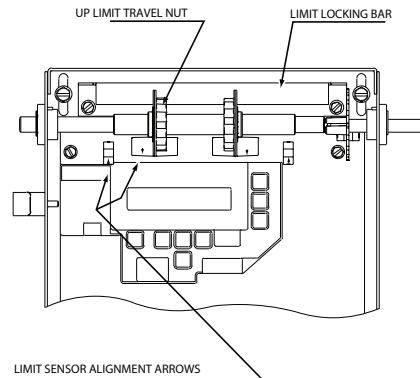

Figure 6
- 5) Release the LIMIT LOCKING BAR and make sure bar seats completely into both Travel Nuts. **Fig. 6.**